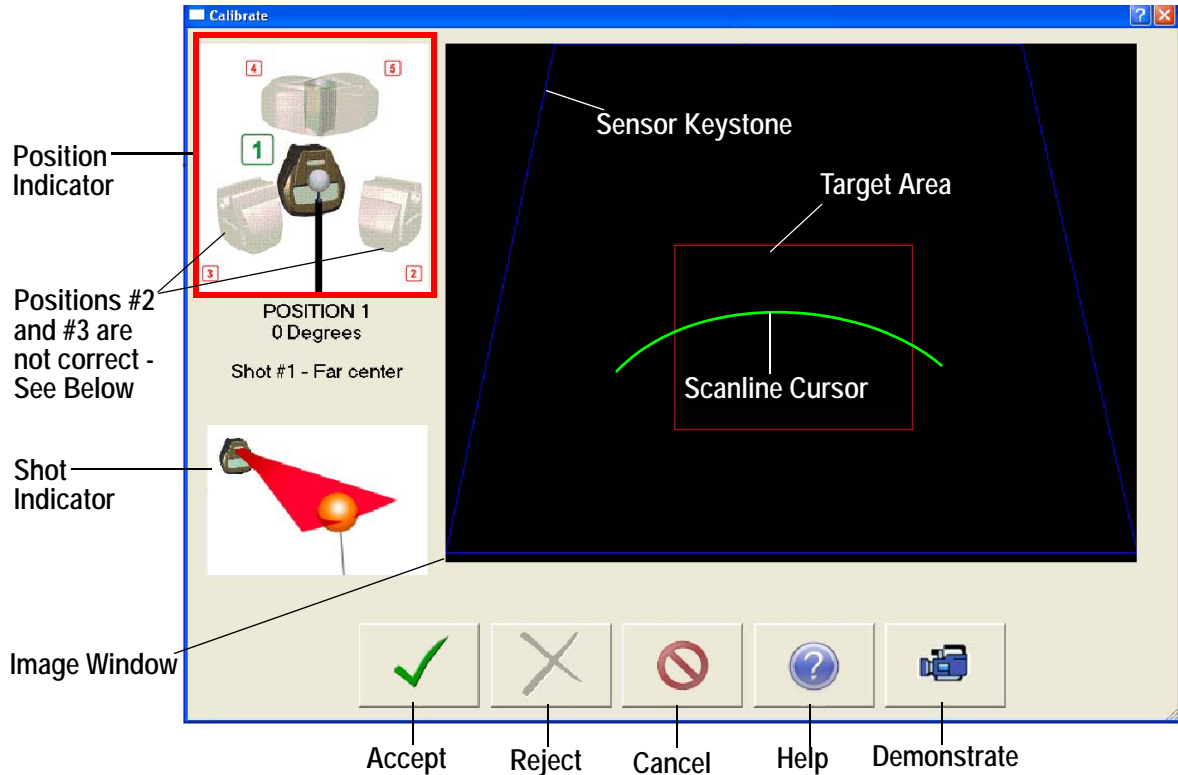

Figure 3-5 Calibration Window
3. Lower the scanner until the green line representing the laser line moves up and out of the blue keystone representing the laser light field in the calibration window (see Figure 3-5 on page 14).